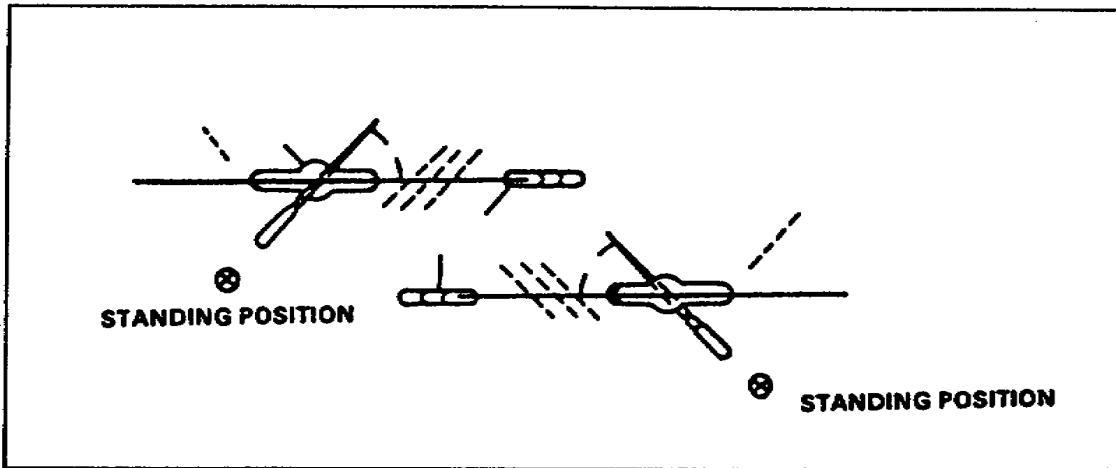

Figure 2-14. Filing a crosscut saw
(3) Filing. To file a crosscut saw (Figure 2-14, page 2-8), place the saw securely in a saw vise with the handle to the left. Using a three-cornered file, start filing from the heel end. Place the file between two teeth and incline it toward the small or tapered end of the saw. File both teeth at once, using one or more strokes and putting the same pressure on each stroke. Work down the length of the saw, then turn the saw around so that the handle is to the right. Incline the file to the tapered end, which is now to the left, and again work down the length of the saw.